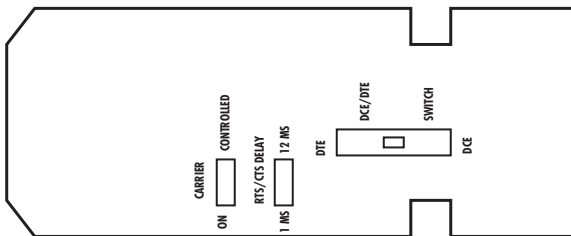

Figure 3-1. Strapping Diagram.
3. Strap the modem according to the strapping diagram (**Figure 3-1**) and the strap-selection table (**Table 3-1**).